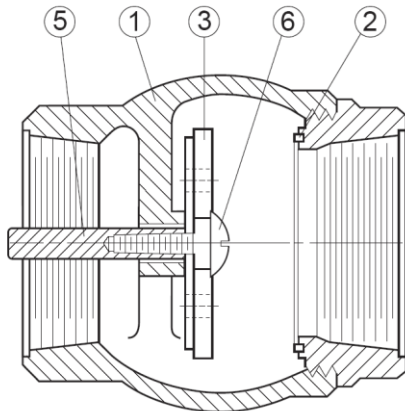

FIGURE 3. 1"-2" REG. EXH. DEVICE
The general detail of construction for the regulated exhaust device (RED) is illustrated in Figures 3 and 4 and listed in Tables 2 and 3.
1. Install bushing (5) into body (1) and tighten retaining nut (7).
2. Lower disc (3) into the valve body the proper orientation shown in Figure 3.
3. Thread seat (2) into the valve body and tighten to the following torque: